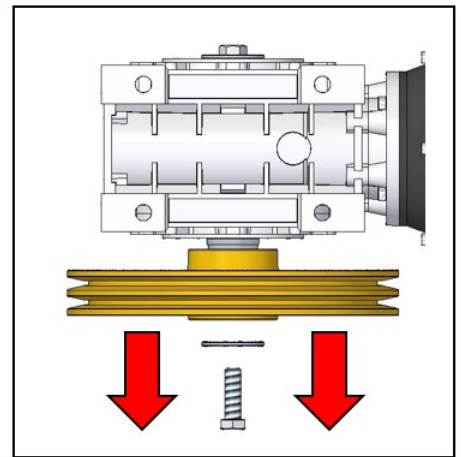

Fig.3
- Pull out the drum or sheave, including the shaft (fig.3)